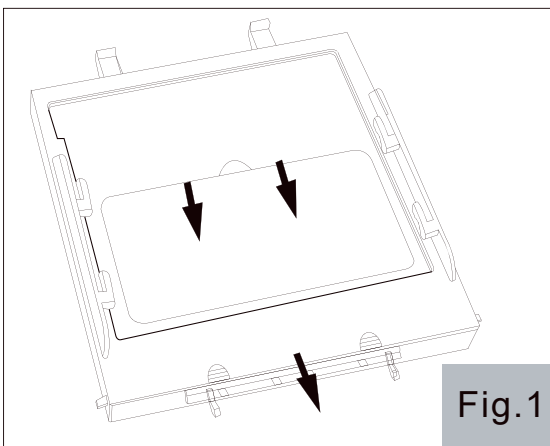
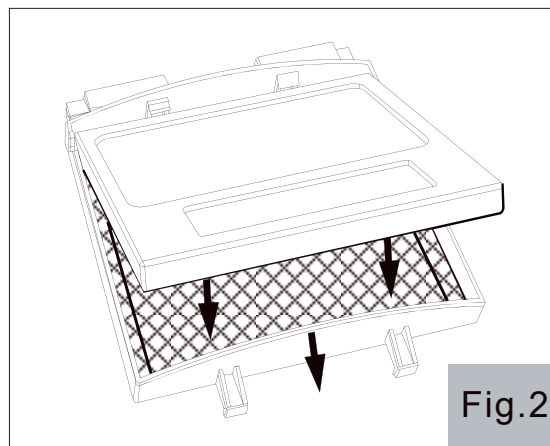

Fig.1
Fig.2
- **Replacing External Cover Lens :** Remove filter holder by moving locks toward center (Fig.1) and lift up the filter holder to remove/replace the external cover lens.
- **Change the Shade Cartridge:** Remove filter holder assembly from helmet shell (See Fig.1). Then flex top end of the filter holder to allow filter cartridge to be removed from the frame. Install new filter cartridge into frame(See Fig.2). Make sure that the filter cartridge is inserted in filter holder correctly as shown and install filter holder assembly into helmet shell.